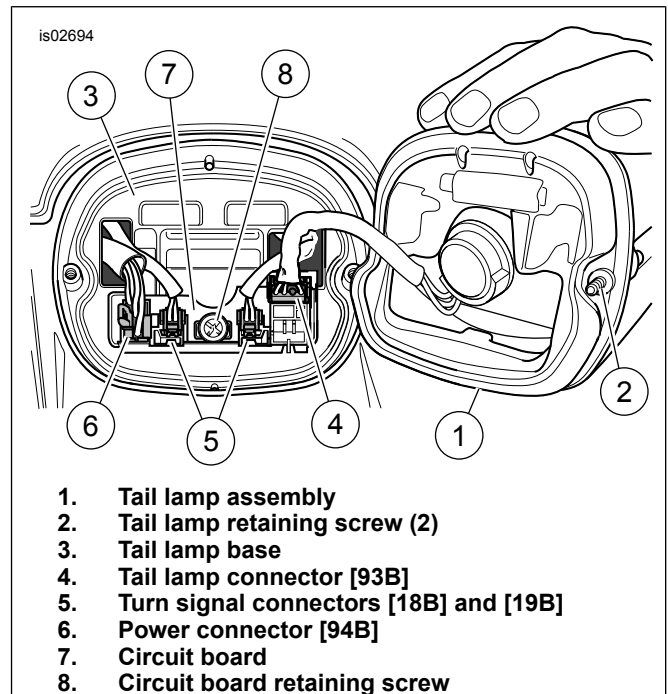

Figure 1. Removing the Tail Lamp Assembly
2. See Figure 1. Loosen the two Phillips head screws (2) retaining the tail lamp assembly (1) to the lamp base (3) and pull the lamp assembly away from the base.
3. Depress the locking tab, and disconnect the tail lamp four-place Multilock socket housing [93B] (4) from the circuit board (7). Remove the lamp from the vehicle.